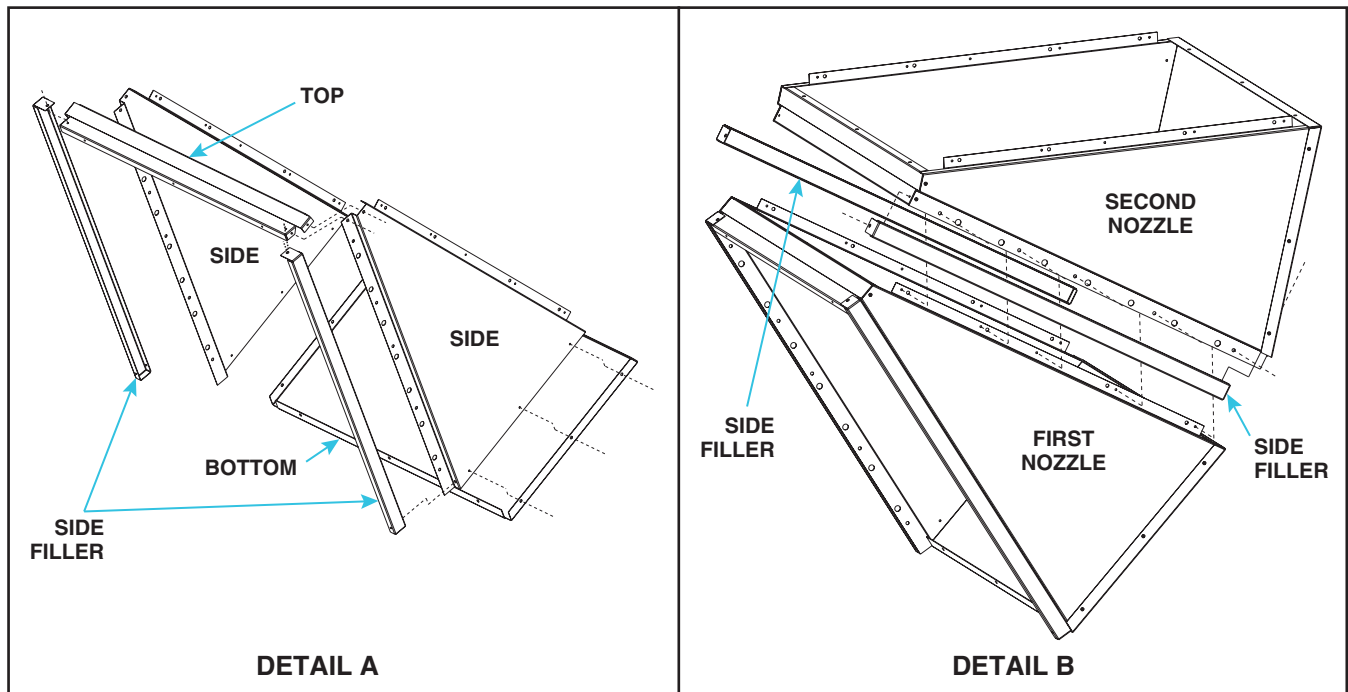

Figure 1. Nozzle Assembly
1. Assemble downturn nozzle assembly (see Figure 1, DETAIL A):
- (1) For options CD57 and CD58, secure side fillers to both side sections using 3/8-inch screws.
- (2) For options CD58 and CD59, assemble second nozzle without side fillers and connect both assembled nozzles and using 3/8-inch screws (see Figure 1, DETAIL B).
- (3) For option CD58, to install side fillers for second nozzle, position each side filler over seam between both bottom nozzle sections, remove screws that align with holes in each side filler, and re-install screws to secure each side filler over seam.
- (4) For option CD59, do not attach side fillers for second nozzle—these will be installed in step 6b(3).